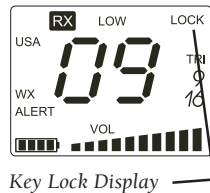

FIGURE 12
1. Press the **H/L-LOCK** (Hi/Low transmission power) key for more than one second after you have set the unit to the function desired. When the unit keypad is locked, the "LOCK" message will be displayed on the LCD screen. (Figure 12)